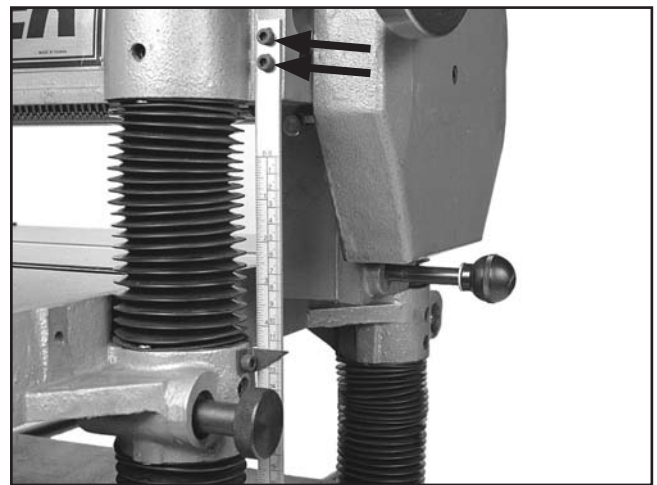

Figure 35. Depth scale adjustment screws.
4. Re-measure the board and compare your results with the scale. If there is a discrepancy, loosen the screws (see **Figure 35**) and adjust as necessary.